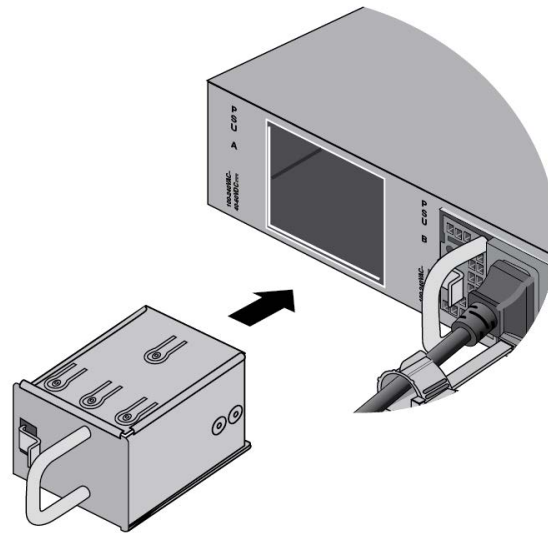

Figure 149. Installing the Blank Power Supply Cover
7. Orient the blank power supply cover as shown in Figure 149 on page 257 and slide it into the slot until it clicks into place.
9. Orient the blank power supply cover as shown in Figure 149 on page 257 and slide it into the slot until it clicks into place.